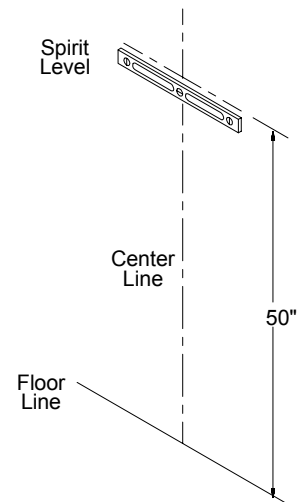

FIGURE 3
1. Determine and mark the vertical center line for installation of the manifold (Figure 3).